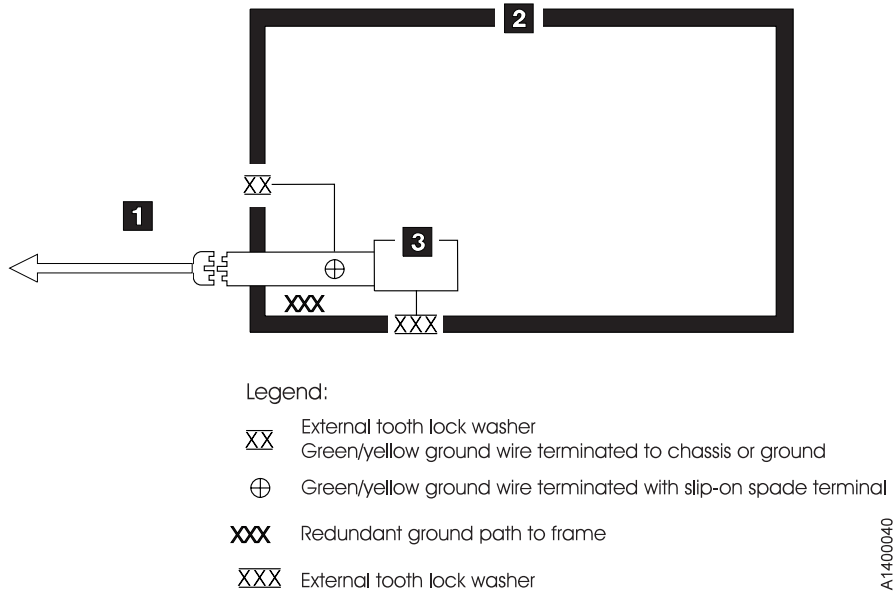

Figure 1. AC Grounding Diagram (50 Hz and 60 Hz)
3. See Figure 1 on page xviii which is provided for reference only. Disconnect the power cord from its source.